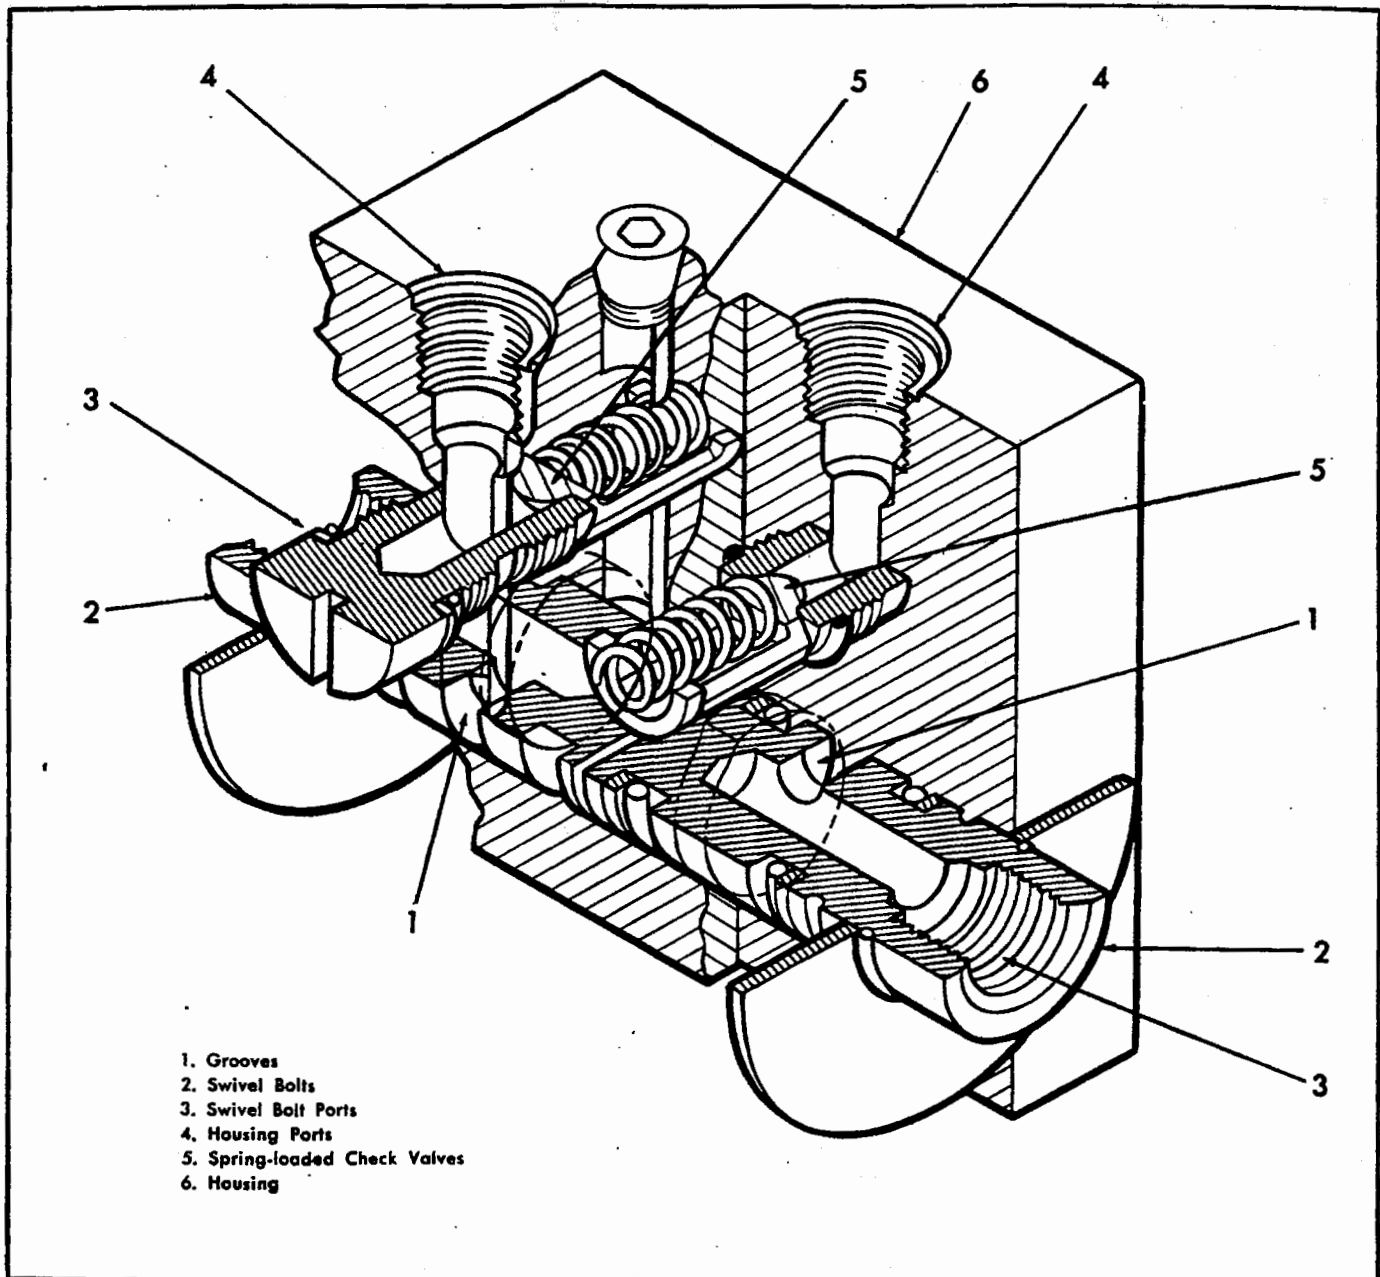

Figure 4-110. Wing Fold Swivel Restrictor Valve.
4-1118. DESCRIPTION. (Refer to figure 4-110.) This unit is manufactured by Aircraft Engineering Co. of Clifton, N. J. The Chance Vought drawing number is VS-54146. It consists of a four port housing (6), two internal swivel bolts (2), and two spring-loaded check valves. The swivel bolts are secured to the outer panel with clamps. This valve is mounted on the end rib of the outer panel and is accessible when the wing is in the folded position. The swivel bolts (2) rotate inside the housing (6) as the wing folds or unfolds. An eccentric groove (1) cut in each swivel bolt allows free flow during the main portion of the wing movement, but restricts